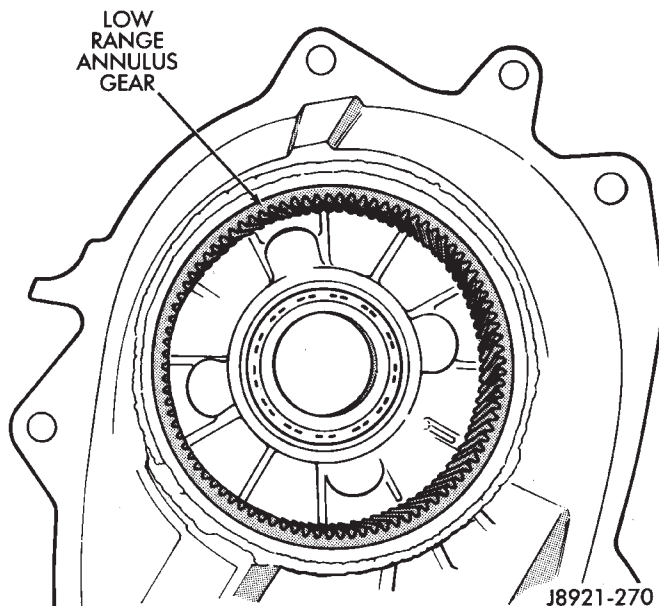

Fig. 41 Inspecting Low Range Annulus Gear
(7) Inspect low range annulus gear (Fig. 41). **Gear is not a serviceable component. If damaged, replace gear and front case as assembly.**
(8) Remove oil seals from following components: